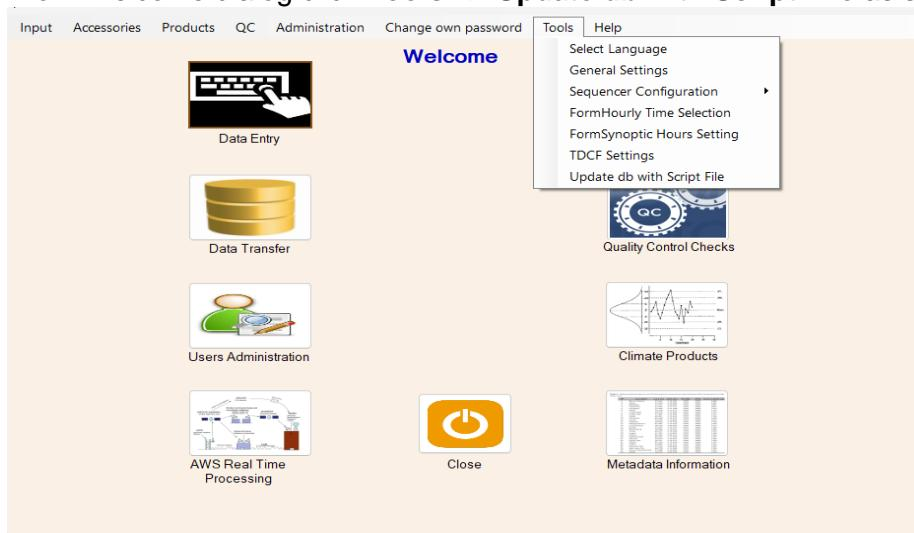

Figure 106: Climsoft version upgrade Menu
- (ii) From Welcome dialog click **Tools => Update db with Script File** as shown in Figure 106